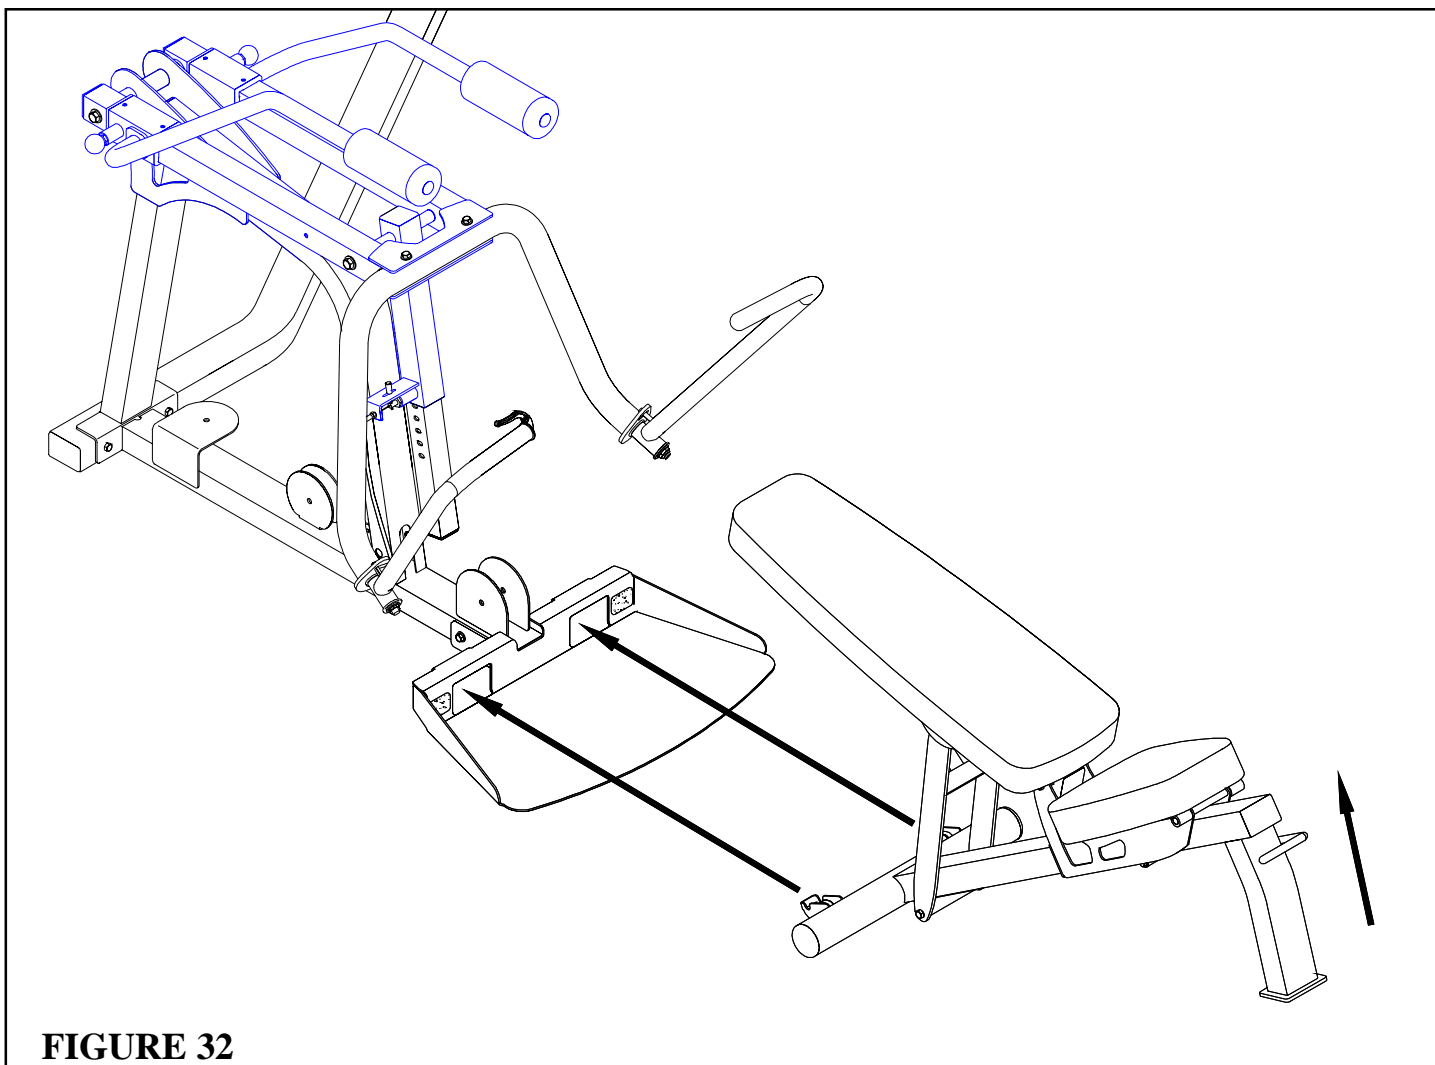

FIGURE 32
- To assemble the BENCH to the BENCH PRESS FRAME, lift up on the tube on the BENCH and tilt the BENCH on the FLOOR ROLLERS, inserting the BENCH into the BENCH PRESS FRAME as shown in FIGURE 32.